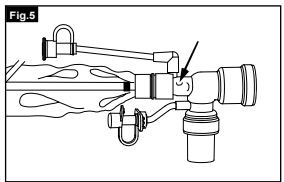

Fig. 5
3. Irrigate until catheter is clear (Fig. 5).